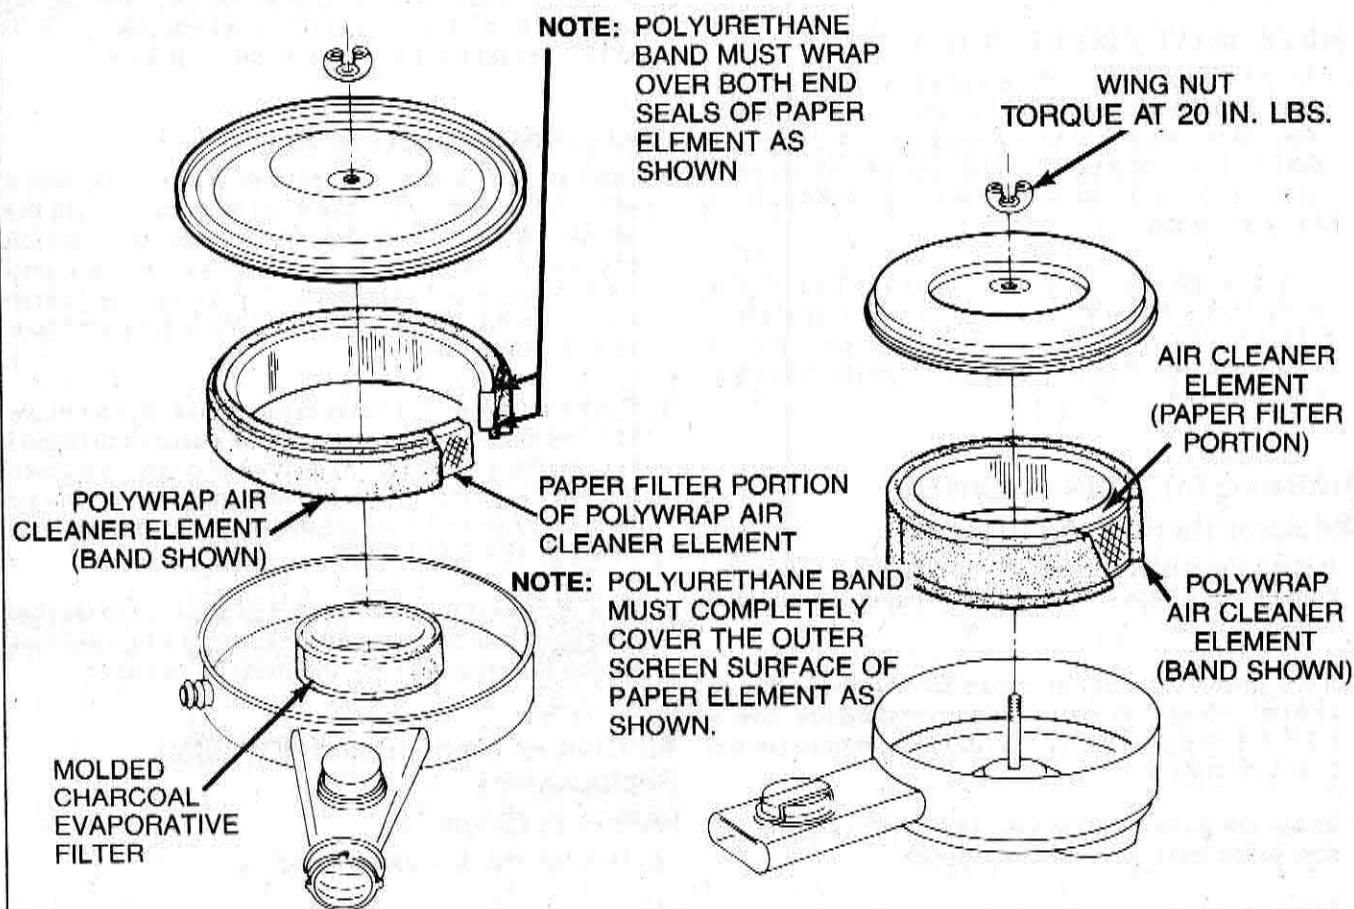

Figure 7-67 — Polywrap Air Cleaner
3. Remove the polywrap band from the paper element and discard the element (Figure 7-67).